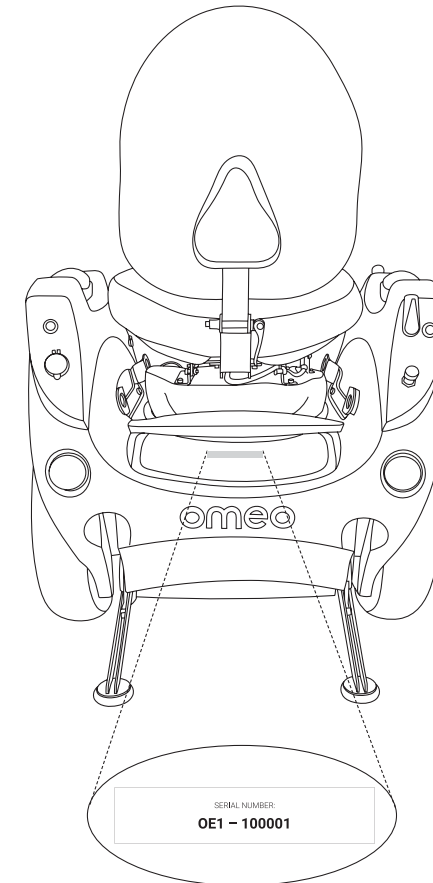

Figure 3: Location of Omeo master Serial Number.
2. Lift the lid of the rear storage hatch to locate the serial number (as shown in **Figure 3**)